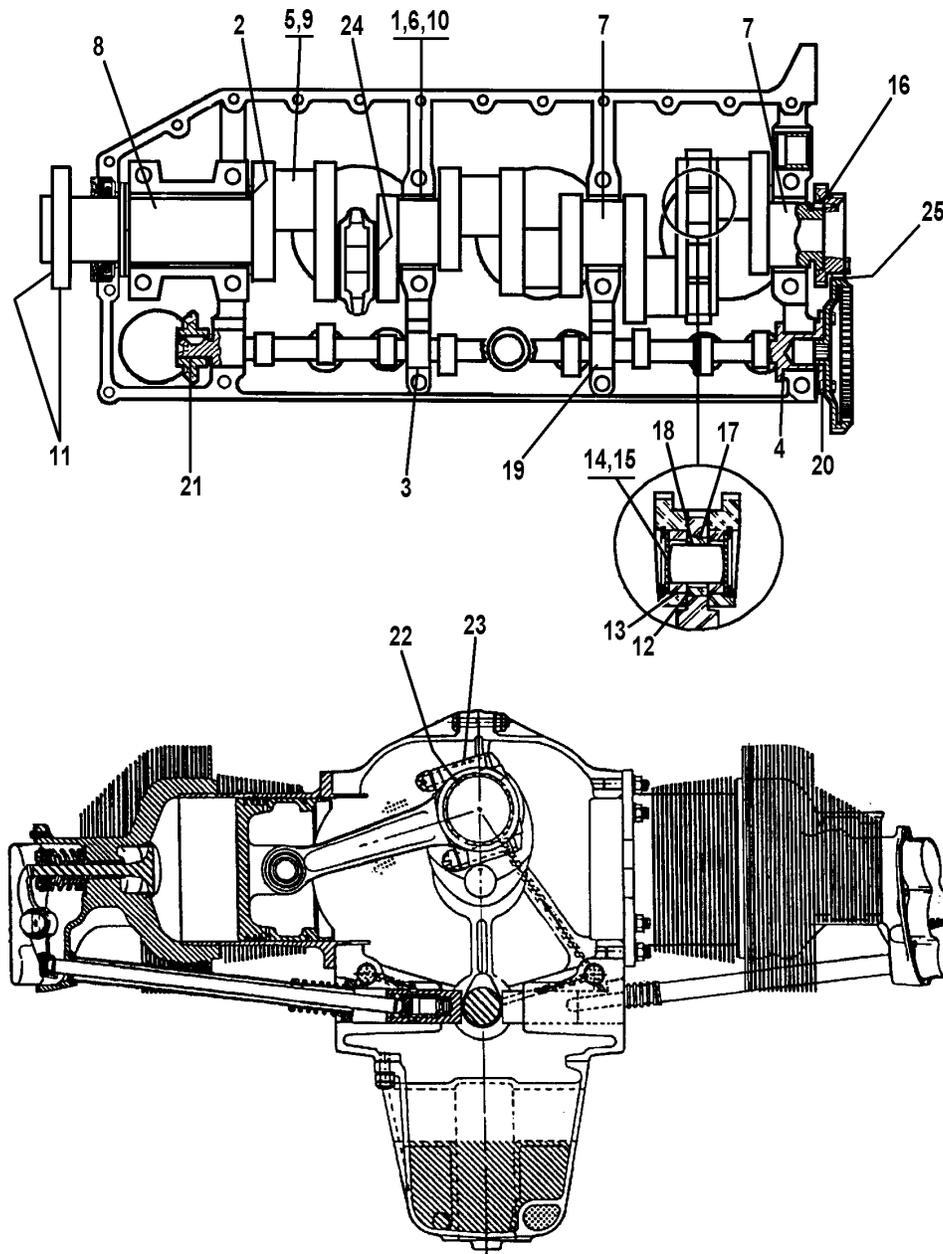

FIGURE 18-1. CRANKSHAFT, CAMSHAFT AND CONNECTING ROD FITS AND LIMITS
journal to detect bending (runout). Rotate the crankshaft prop flange under a dial indicator to detect bending (runout). See items (10, 11,19) of Figure 18-1, "Crankshaft and Camshaft Fits and Limits," for camshaft and crankshaft runout tolerances.